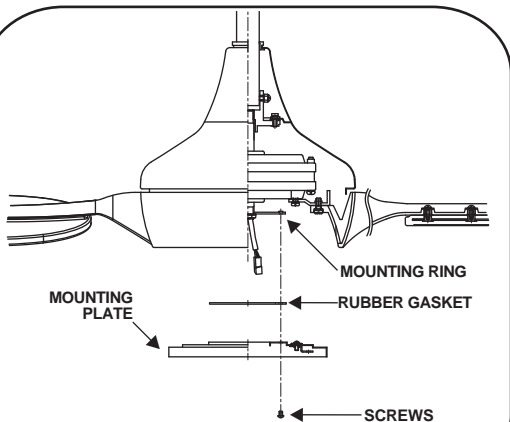

Fig. 17
Step 2. Raise the mounting plate and rubber gasket up against bottom of the mounting ring. Secure by tightening the 3 screws previously removed. (Fig. 17)